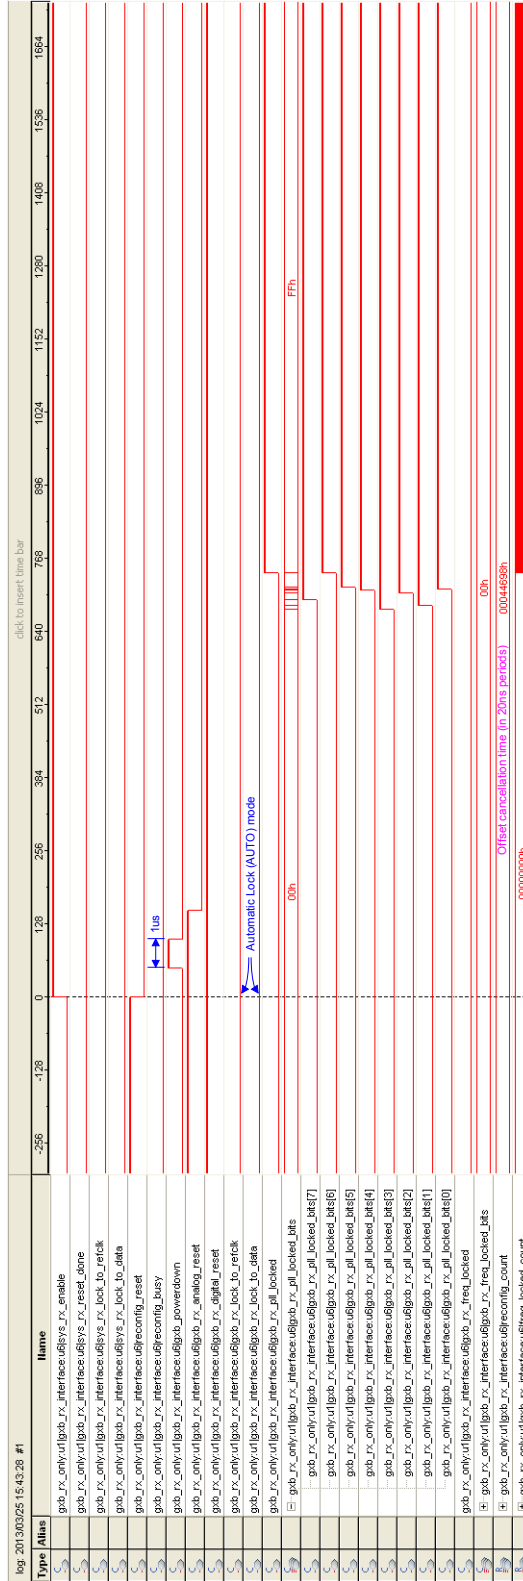

Figure 20: Altera Transceiver Receiver-only reset controller (AUTO mode) re-enable after power-on (start of reset sequence).
- Figures 20 and 21 show the reset sequence for AUTO mode (for ALTGX\_RECONFIG busy deasserted).
- Figures 20 and 21 proceeds as follows;